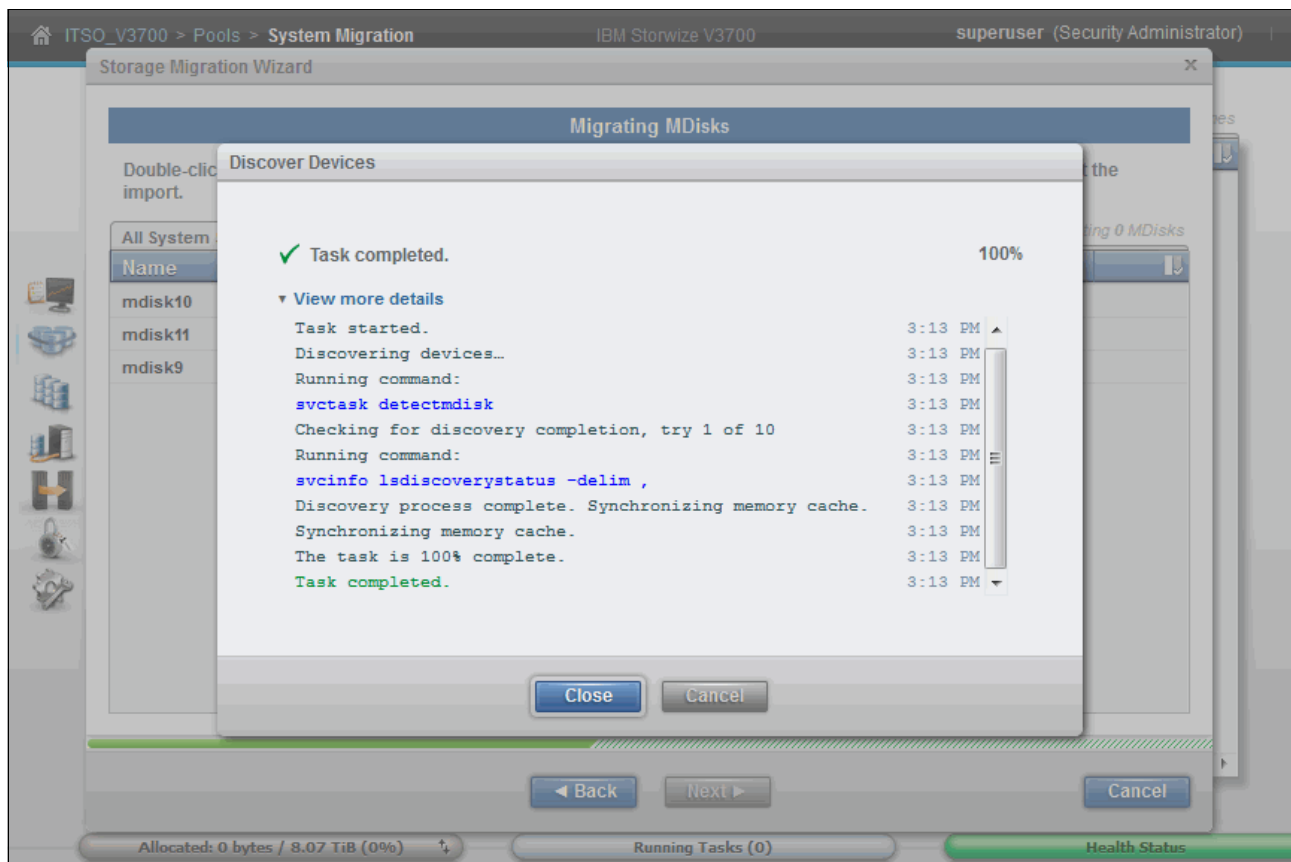

Figure 6-42 Discover Devices task
- The Storwize V3700 runs the Discover Devices task. After the task is complete, click **Close** to continue. Figure 6-42 shows the results of the Discover Devices task. You can see in the background that it has successfully detected MDisks 9, 10, and 11. These are the three volumes that were presented from the System Storage DS3200 to the Storwize V3700 host group definition.